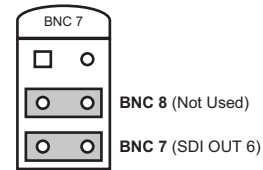

Figure 3.3 JP3 — Extra SD-SDI Out Setting
- **Extra SDI Out** — Select this position to use BNC 7 as SDI Out 6 and when BNC 8 is not connected. This position is advised when using the 8320AR-031 Split Rear Module. Refer to **Figure 3.3** for jumper positions.